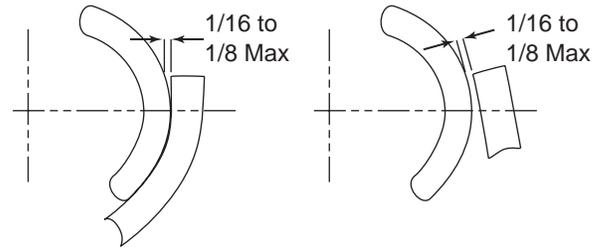

Figure 12. Root Weld Gap
3. Inspect axle to lower beam weld. Axle should be snug in contoured axle seat and welded according to guidelines shown in Figures 12, 13 and 14.